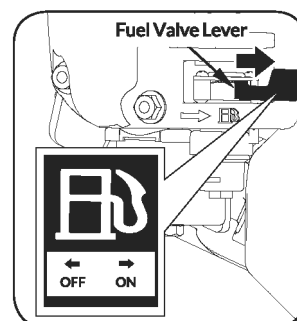

Figure 8
1. Move the fuel valve lever to the ON position. (See **Figure 8**)